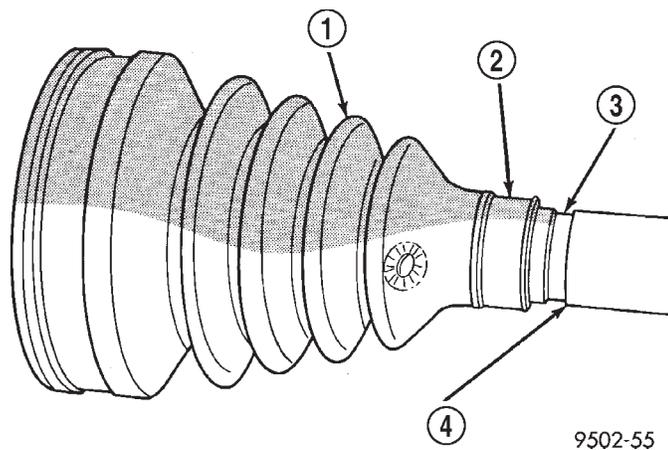

Fig. 22 Sealing Boot Installation on Interconnecting Shaft
(1) Slide inner tripod joint seal boot retaining clamp, onto interconnecting shaft. Then slide the replacement inner tripod joint sealing boot onto interconnecting shaft. **Inner tripod joint seal boot MUST be positioned on interconnecting shaft, so the raised bead on the inside of the seal boot is in groove on interconnecting shaft (Fig. 22).**